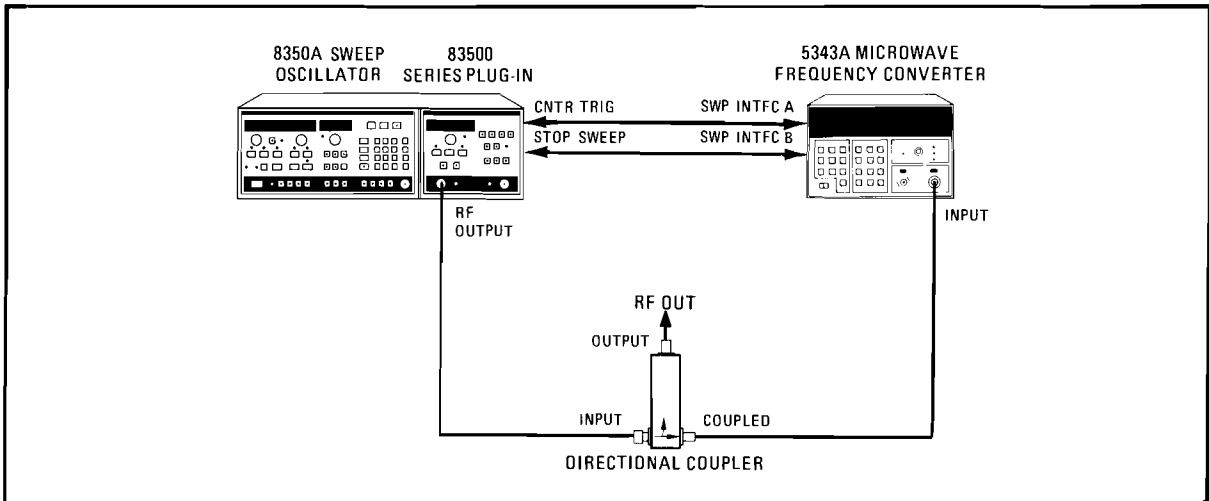

Figure 15. 5343A Test Setup
See Figure 15 for the test set up.
1. Connect equipment as shown in Figure 15. Set the 5343A to AUTO, SWP M and set desired frequency resolution.